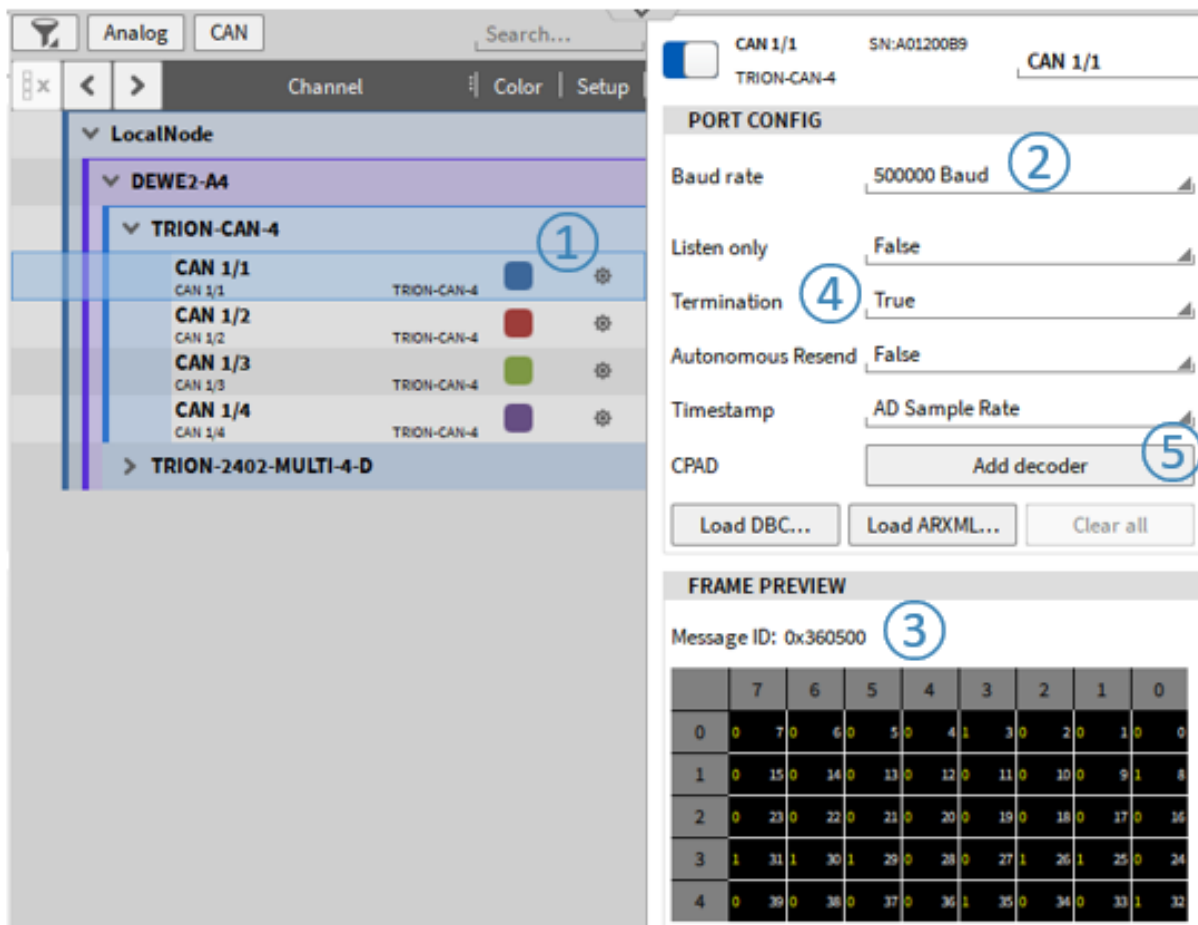
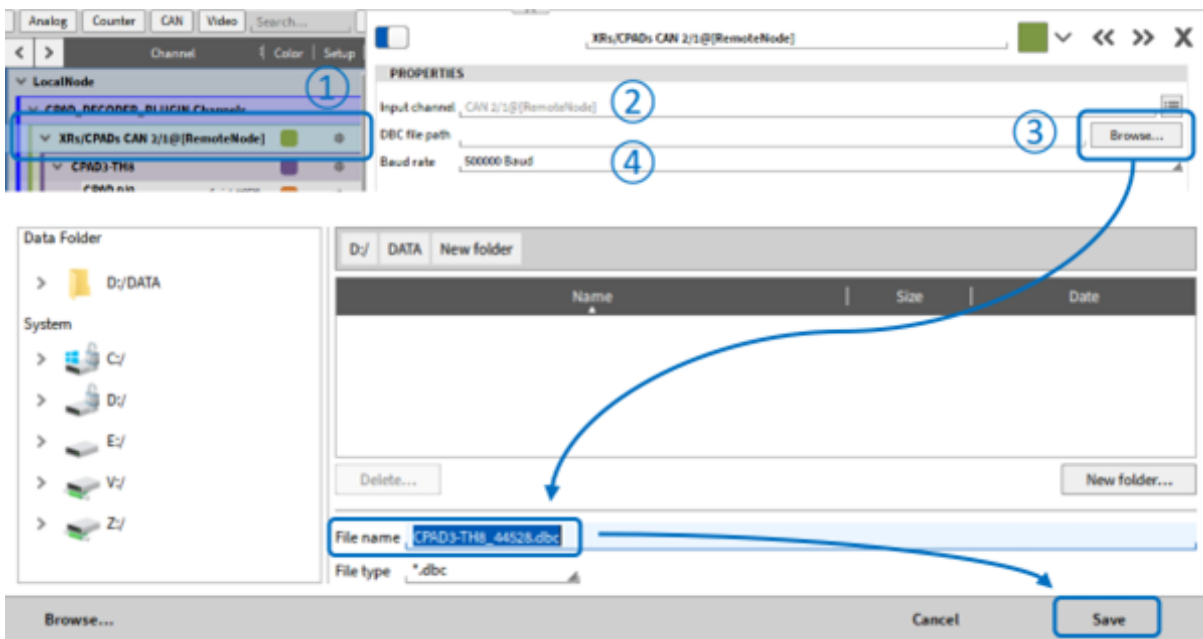

Fig. 4.32: Adding a CPAD decoder
Fig. 4.34: CPAD decoder settings
- Connect the CPAD to the desired CAN port and open its Channel settings in the Channel List (see ① in Fig. 4.32).
- Select the Baud rate of the CPAD (see ② in Fig. 4.32)
- If you don't know the CPAD's Baud rate change the Baud rates until the Frame Preview shows alternating Message IDs and frames (see ③ in Fig. 4.32)
- Make sure that the CAN bus is terminated with a 120 Ohm resistor or set the internal module termination to True (see ④ in Fig. 4.32)
- When the Baud rate is set up correctly press Add decoder (see ⑤ in Fig. 4.32)
After creating the CPAD decoder, the detected CPADs and their channel can be found in the channel list (see ① in Fig. 4.34). If desired, the referring CAN port can be changed (i.e. when a CPAD is connected to a different port) by selecting a different CAN port in ② in Fig. 4.34. The module baud rate can be changed here as well (see ④ in Fig. 4.34) in addition to the synchronous timestamp forcing equidistant timestamps if “True” ⑤). Make sure to change the CAN bus baud rate as well to properly receive and decode data in ② of Fig. 4.32.
Additionally, the configuration of the CPAD / XR can be saved into a DBC-file here (see ③ in Fig. 4.34).